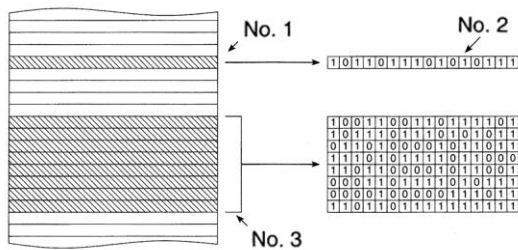

Figure 10-1 Memory map for question 3.
3. According to the memory map of Figure 10-1, 3. _____